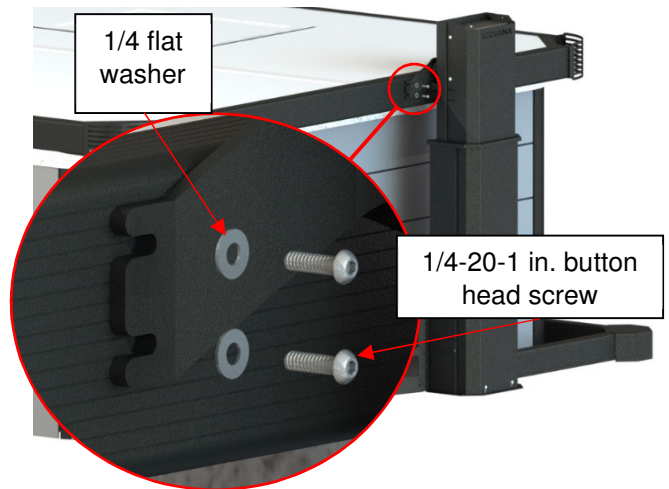

Figure 90
- 28) Fasten the top plates at the top of each post using #8-1/2 in. painted screws. (Figure 90)